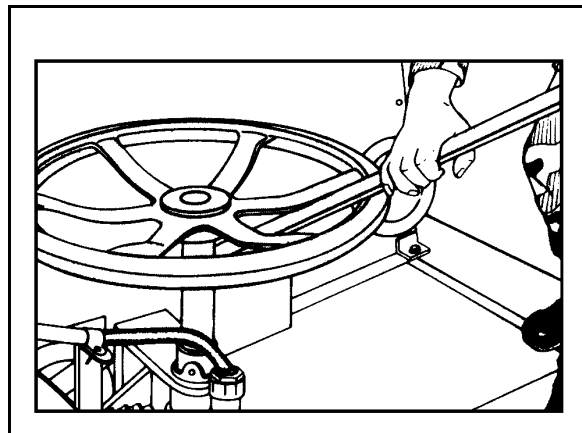

Figure 21-19. Setting Brake
- Secure the brake. Use the anchor bar or a "valve wrench" to set up on the brake (Figure 21-19).